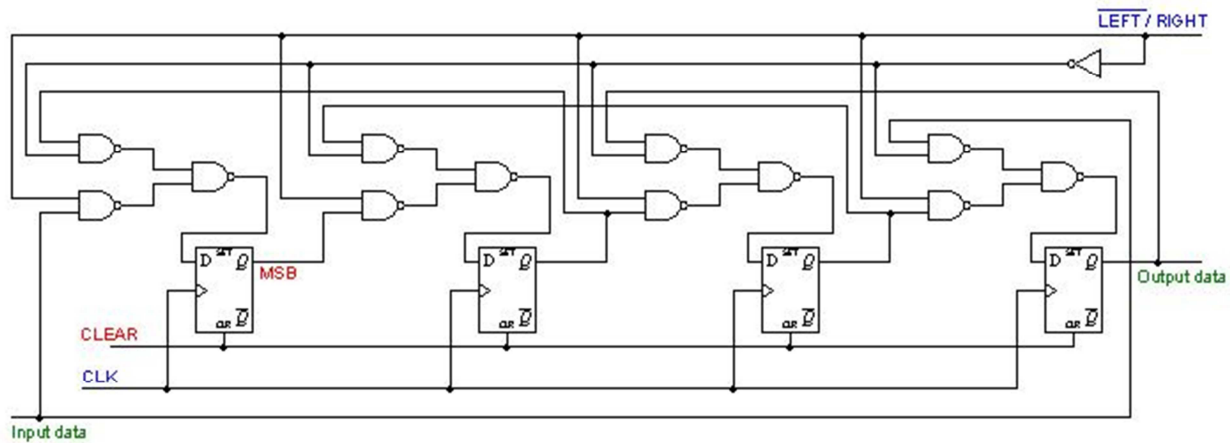

Figure 2.4: Bi-Directional Serial-In Serial-Out Shift Register
If data is loaded serially and read out in parallel, the Shift Register functions as a Serial-In Parallel-Out Shift Register. For data that is loaded in parallel and shifted out serially, the Shift Register functions as a Parallel-In Serial-Out Shift Register. More generally, shift registers may be configured to allow shifting of data to the right or to the left, as indicated by the Bi-Directional Shift Register in Figure 2.4. Universal Shift Registers allow shifting of
1. Modify your circuit to construct a 4-Stage Bi-Directional Serial-In Serial-Out Shift Register. Use NAND Gates as necessary for the SOP terms needed to implement the Bi-Directional Shift Register, as indicated in Figure 2.4. Note that you will have